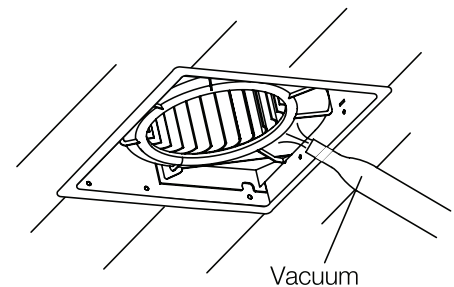

Fig. 8
3. Remove dust and dirt from the fan housing with a vacuum cleaner (Fig. 8)